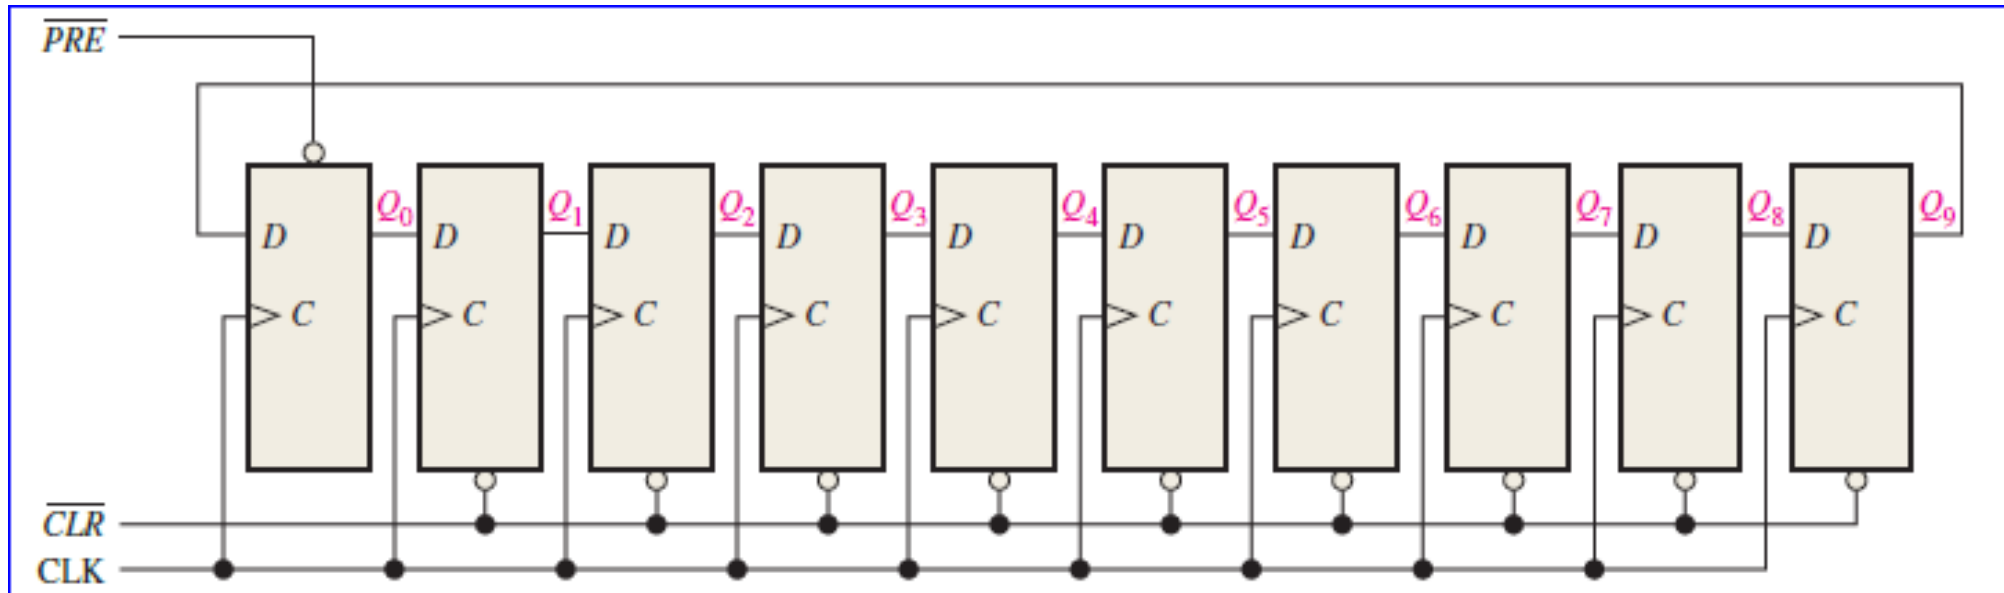

FIGURE 24 A 10-bit ring counter.
- A logic diagram for a 10-bit ring counter is shown in Figure 24. The sequence for this ring counter is given in Table 5. Initially, a 1 is preset into the first flip-flop, and the rest of the flip-flops are cleared. Notice that the interstage connections are the same as those for a Johnson counter, except that Q rather than Q' is fed back from the last stage.
If a 10-bit ring counter similar to Figure 24 has the initial state 1010000000, determine the waveform for each of the Q outputs.